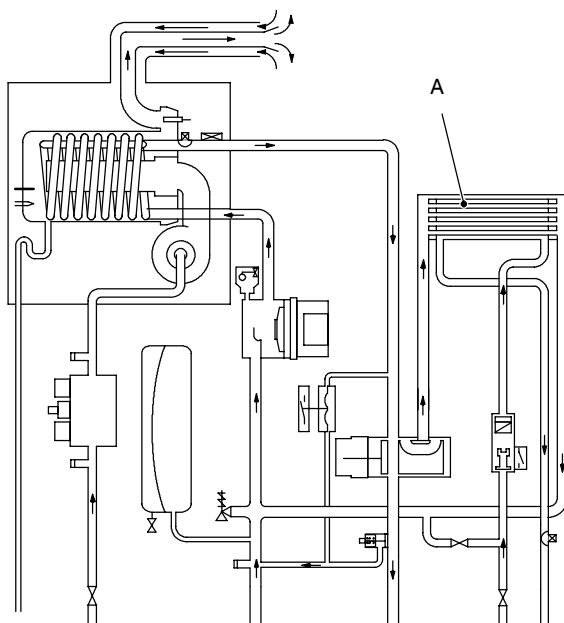
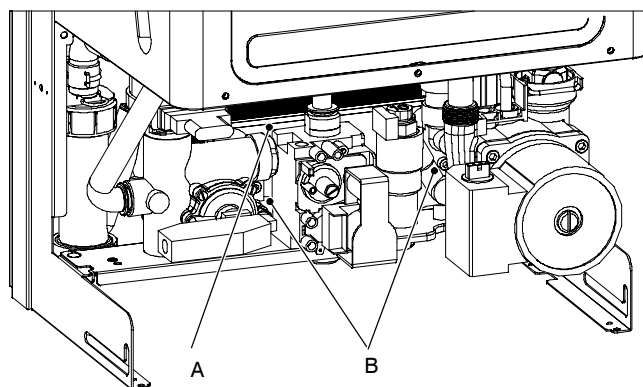

Fig. 6.1
Fig. 6.3
The d.h.w. heat exchanger A in Fig. 6.1 and Fig. 6.3 allows the instantaneous transfer of heat from the primary hydraulic circuit to the water destined for d.h.w. use.
- 3 Completely unscrew the two Allen key screws B (Fig. 6.3) which hold the exchanger to the brass groups.